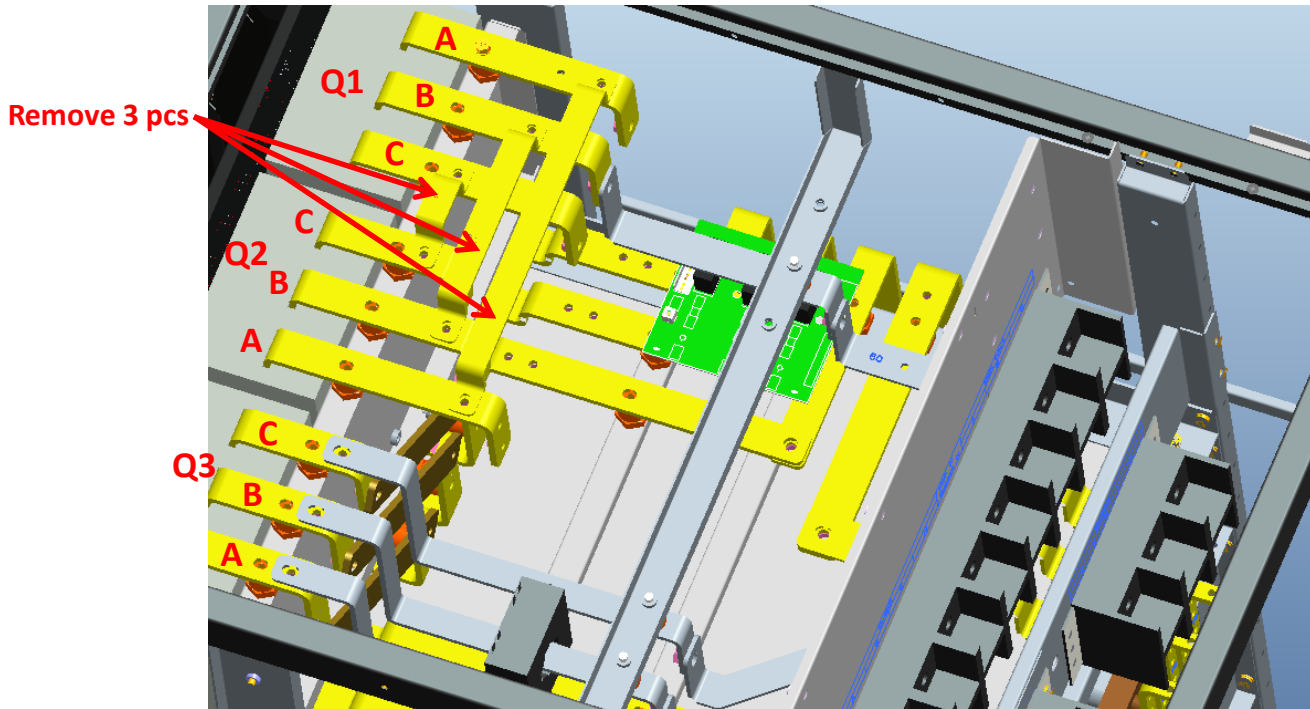

Figure 3 Shorted copper bar
- Remove shorted copper bar between input switch Q1 and maintenance Q2, as is shown in figure 3, connect 3 pcs new cables (Longer) between bypass input terminals and maintenance Q2, as is shown in figure 4.